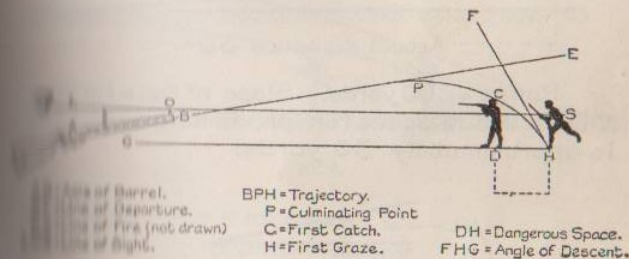

FIG. 2.
5. *Aiming off.*—Carried out with rifles and aiming rests, using small target and Fig. 2 silhouette up to 300 yards. Men will aim rifles at different points of aim on small target, or target widths of Fig. 2 silhouette.
### 3. Definitions (See Figure 2)